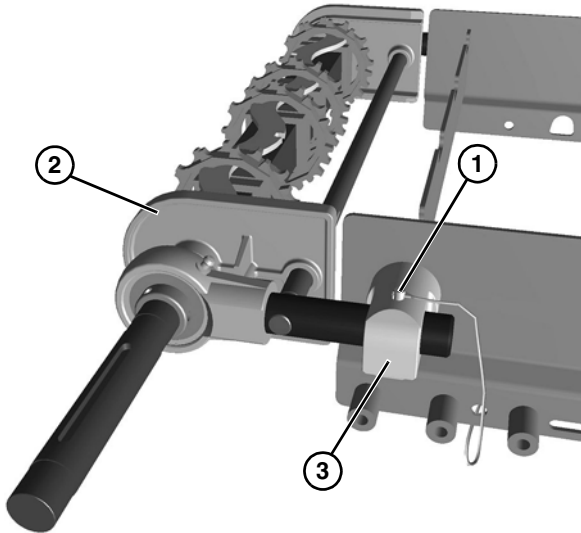

Figure 61
- Remove the pull pin (**Figure 61, item 1**).
- Slide the drive tail assembly (**Figure 61, item 2**) out of the take up blocks (**Figure 61, item 3**).